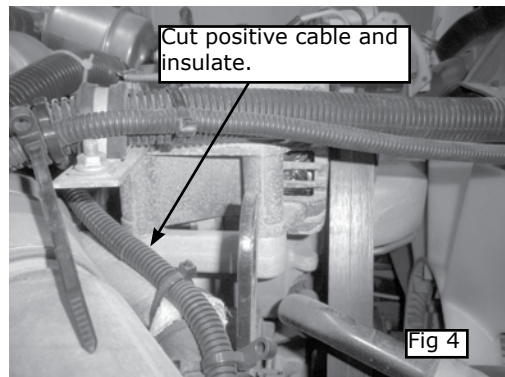

Fig 4
- 4) Cut off existing ring terminal from alternator positive cable and insulate to prevent shorting. Fig 4